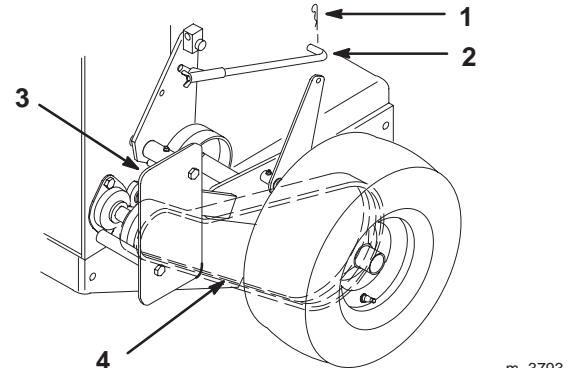

Figure 44
1. Remove hairpin cotter securing brake rod to brake arm to relax belt idler tension (Fig. 44).
2. Remove bottom and loosen top bolts of shield to rotate for belt clearance (Fig. 44).
3. Lift belt past idler and off drive pulley (Fig. 44).
6. Secure shield with previously removed bolt and tighten bolts (Fig. 44).
7. Secure brake rod to brake arm with hairpin cotter (Fig. 44).